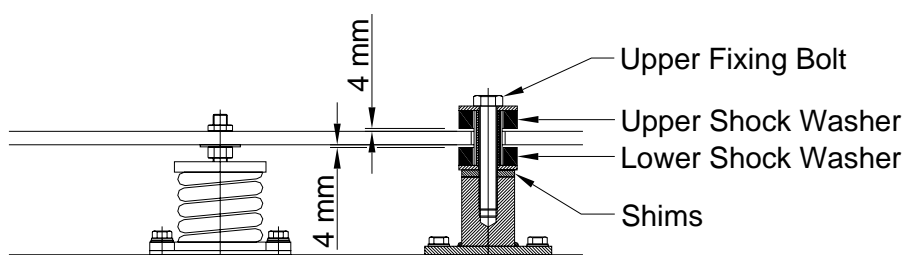

Figure 3
- Fully tighten VSU H.D bolts and position lower shock washer on to VSU base, utilising the shims provided (10 mm maximum adjustment) to raise the washer and produce a 4 mm gap between washer and machine base. Insert supplied upper fixing through upper shock washer, distance tube and rubber sleeve. Insert upper fixing, tube and sleeve through machine base and torque to 300 NM (See Figure 3). The upper 4 mm gap is set by the length of the distance tube and therefore will be correct.